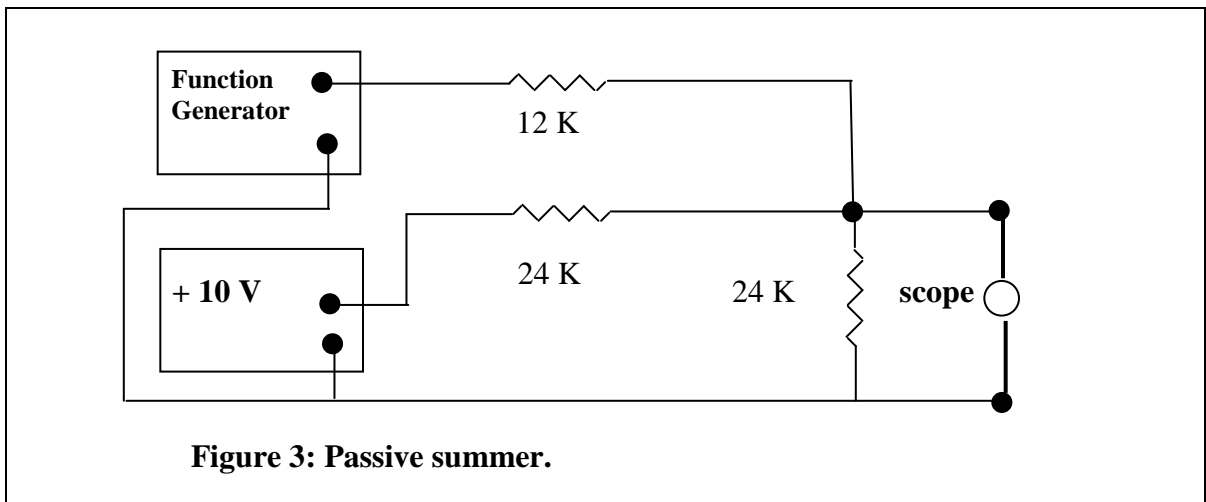
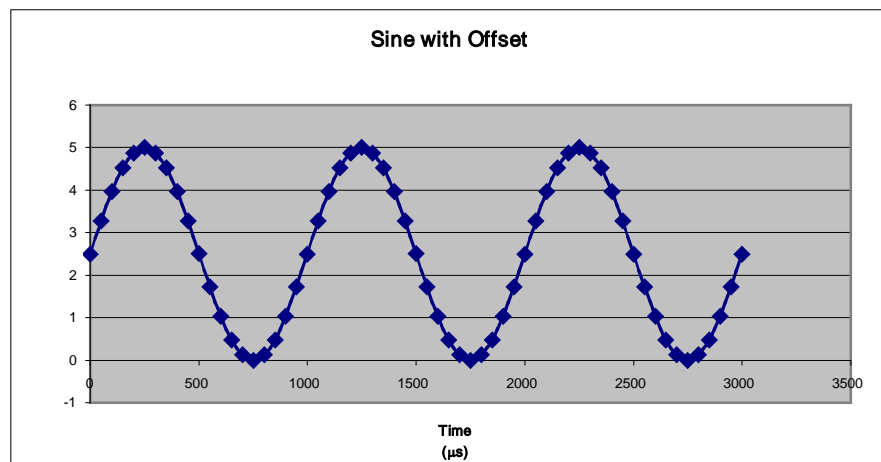

Figure 3: Passive summer.
Figure 4: Output of Passive Summer.
3. *Passive Summer:* The summer adds the DC voltage from the power supply to offset the ac voltage from the function generator (Figure 3). Suppose the function generator is an ideal voltage source (no internal resistance) creating a sine voltage $V_{AC} = 5 \sin(2\pi ft)$, where f is the frequency and the amplitude is 5 volts. Assume that the 10-volt supply is an ideal voltage source. **To be done before class:** It can be shown that $V_{OUT} = V_{AC}/2 + V_{DC}/4$. Hence the output is always positive and looks like the curve in Figure 4 below.